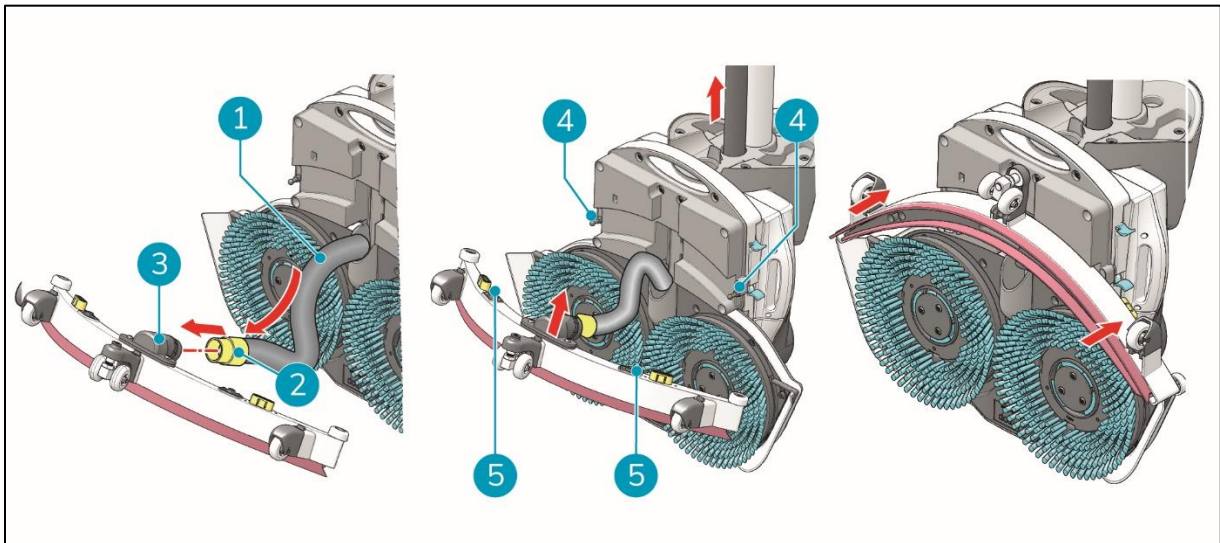

Figure 280
3. Pull on the left side of the squeegee to remove it (Figure 280, pos. 1).
4. Pull on the right side of the squeegee to remove it (Figure 280, pos. 2).